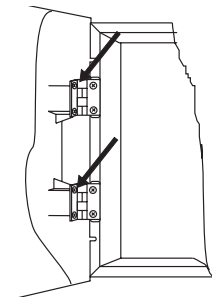

Figure 3.
- Remove the front panel by undoing the screws of the hinges - Figure 3. (**NB.** *The screws at the metal bottom can also be undone. What is special here is that there are two plastic pads under the every hinge. These pads need to be placed back again under the hinges when mounting the front panel.*)
- Perform an exposed or flushed mounting (option) - see items 3.1 and 3.2.